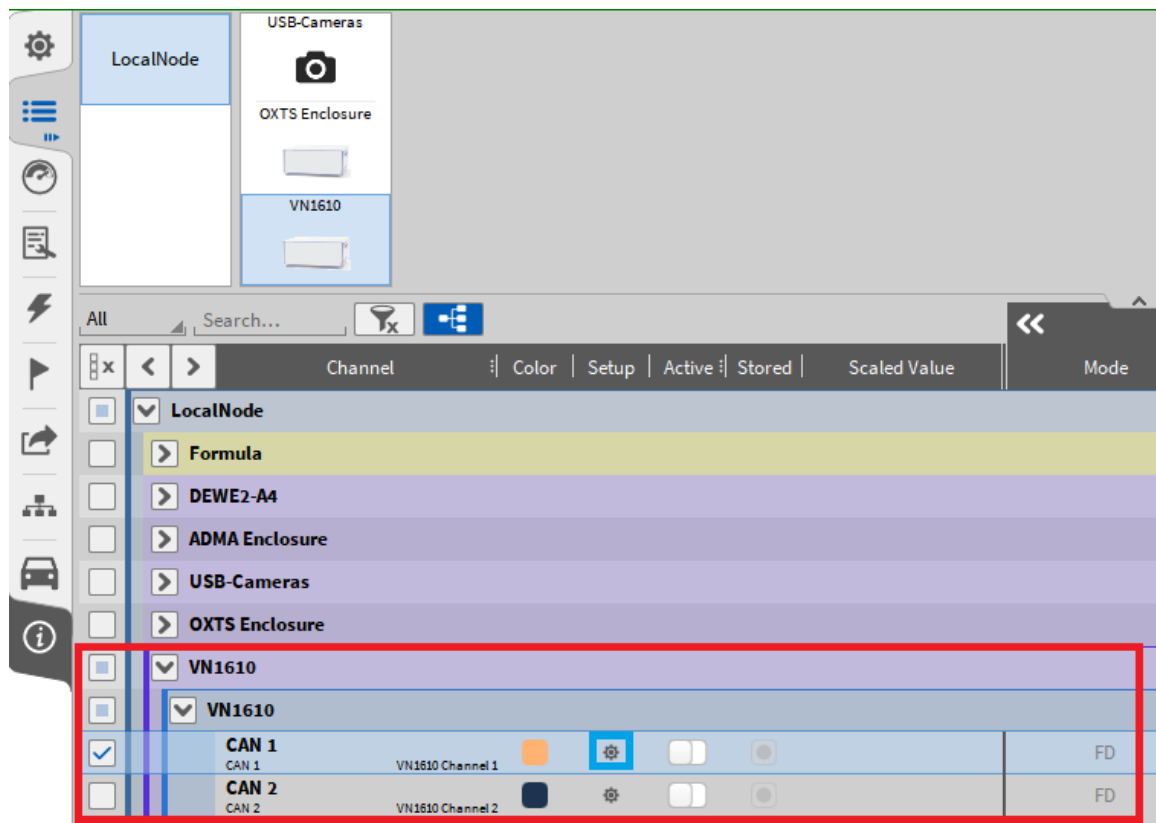
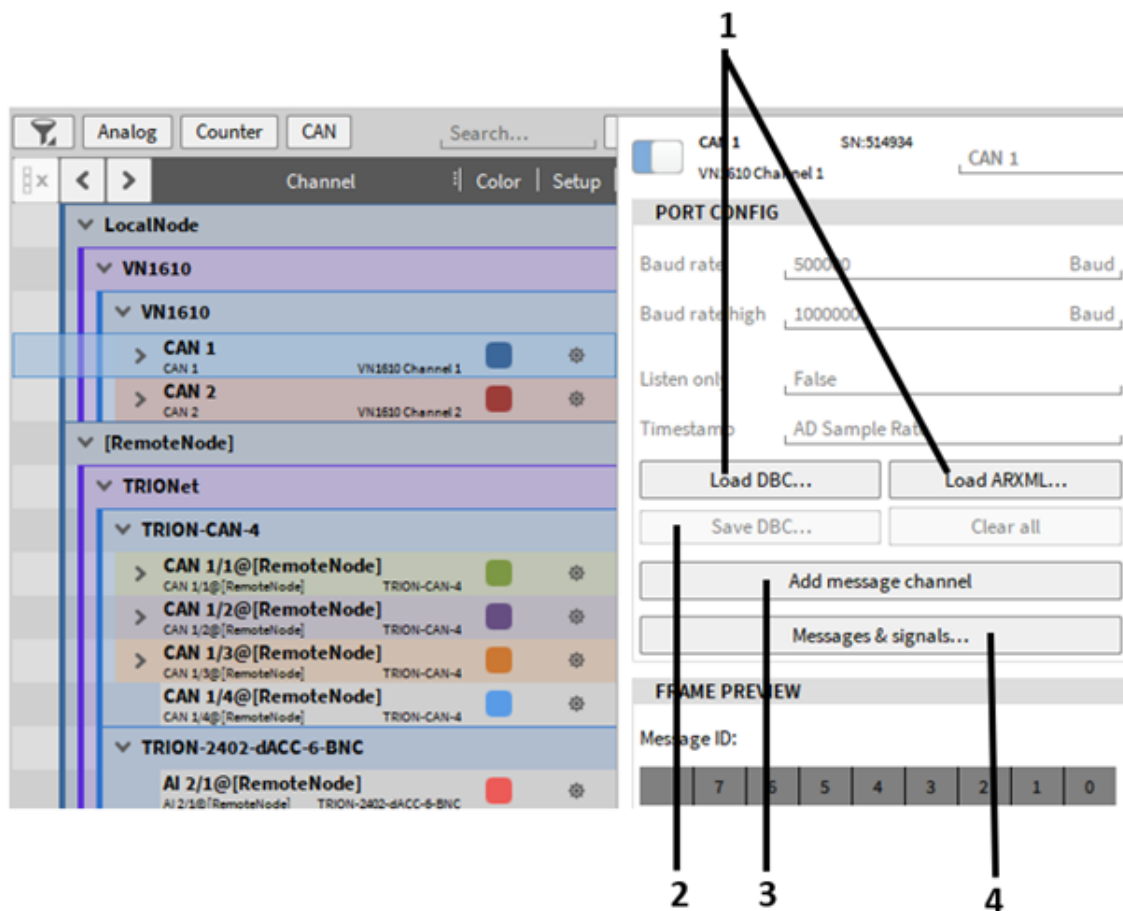

Fig. 4.50: Channel List with Vector VN hardware included
Fig. 4.51: CAN-FD channel settings
- Open the OXYGEN Channel List. The Vector Hardware channels will be visible in the section VNxxxx of the Channel List (marked red in Fig. 4.50).
- Click on the Gear button to open the Channel settings (marked blue in Fig. 4.50). The Baud rate and additional settings can be changed here and the dbc-file can be loaded (see Fig. 4.51).
- To select additional channels later on, just reload the dbc-file and pick more channel In the channel picker dialog. The *Clear all* (Fig. 4.51) buttons deletes the current channel selection.